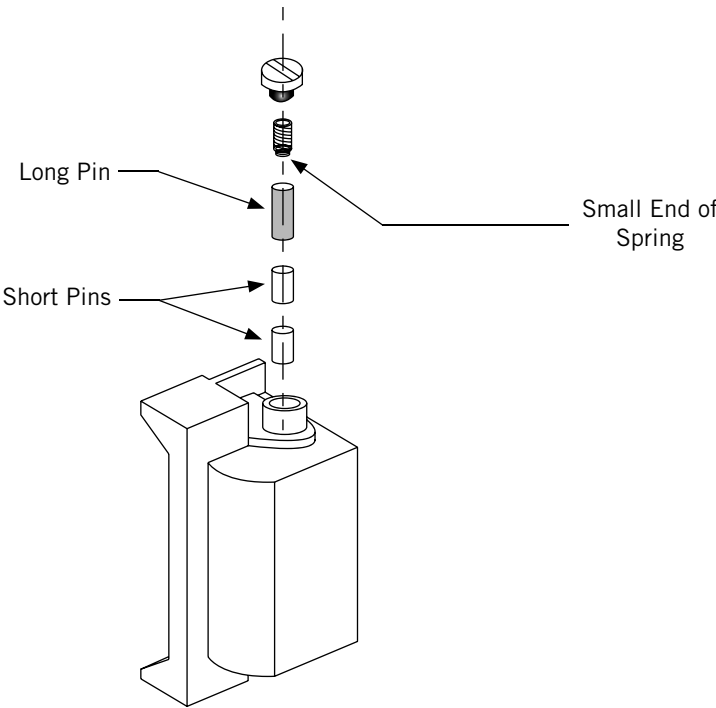
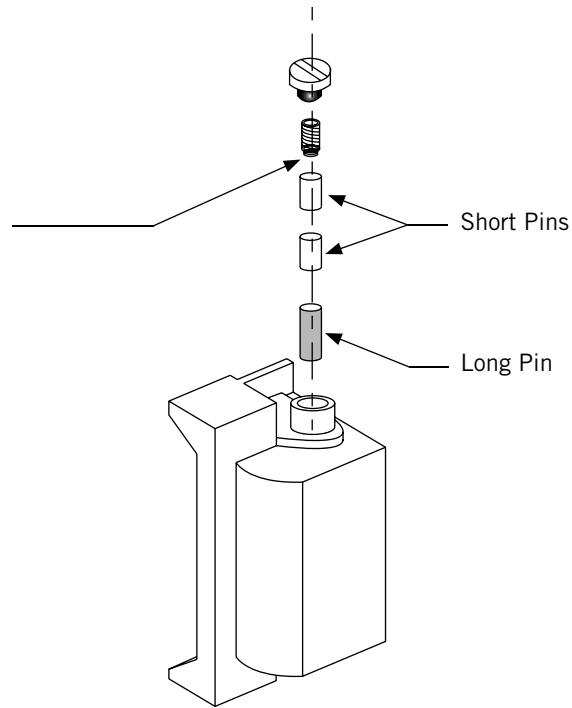

Fig. 5 - Power to Open (Fail-Secure) Configuration
Fig. 6 - Power to Lock (Fail-Safe) Configuration
- 3. Re-insert pins in the manner shown for the desired mode of lock operation (Power to Open: see Fig. 5; Power to Lock: see Fig. 6), followed by the spring.